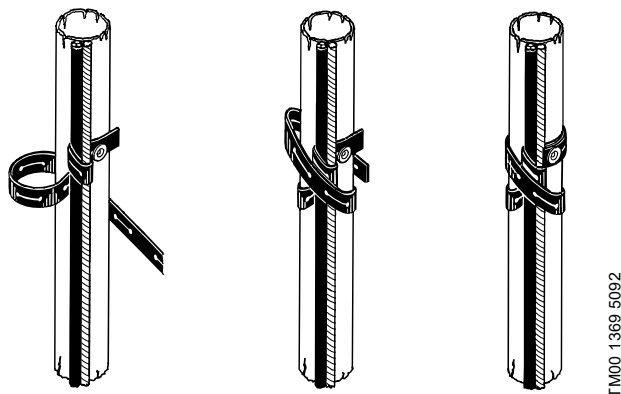

Fig. 23 Fitting the cable clips
3. Position the wire alongside the submersible drop cable as shown in fig. 23.